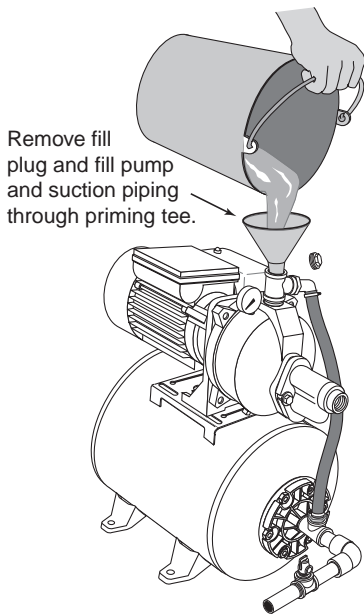

Figure 16: Fill Pump through Priming Tee
- Step 1. Remove the priming plug from the pump and fill the pump, fill all piping between the pump and the well, and make sure that all piping in the well is full (see Figure 16). If you have also installed a priming tee in the suction piping, remove the plug from the tee and fill the suction piping.